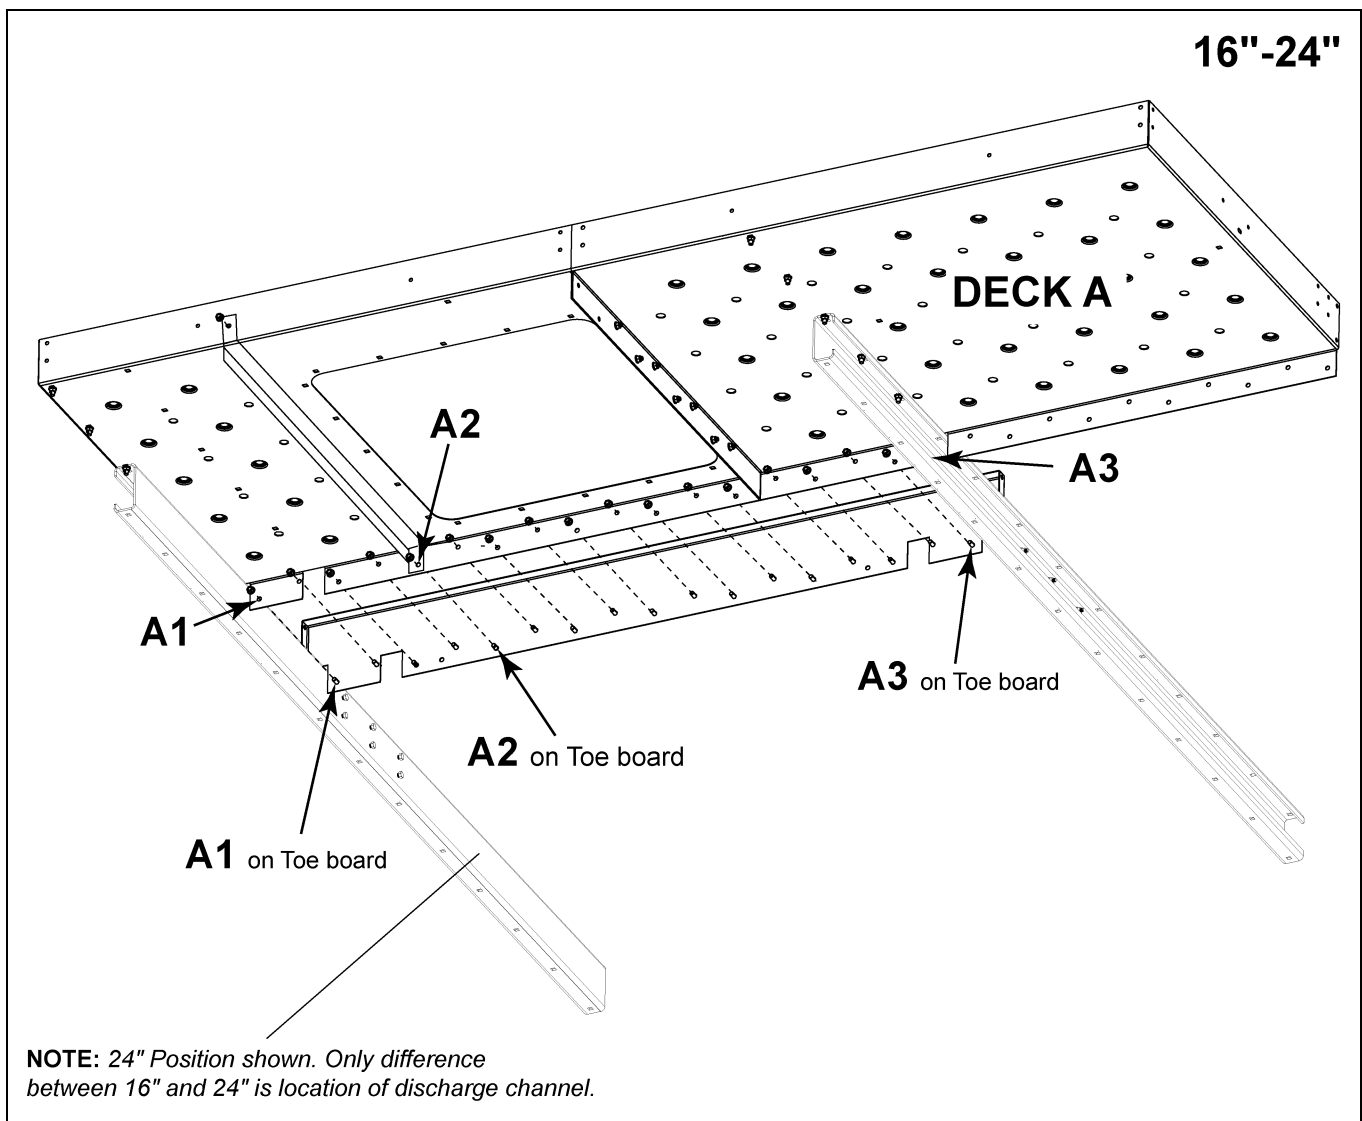

Figure 7B Deck A Toe Board Channel Location
3. Using a punch as needed for alignment, connect Deck A to the side toe board with 3/8" flange nuts (S-10028) and 3/8" x 3/4" flange bolts (S-7105). Torque to standard specifications. (See Figure 7B.)